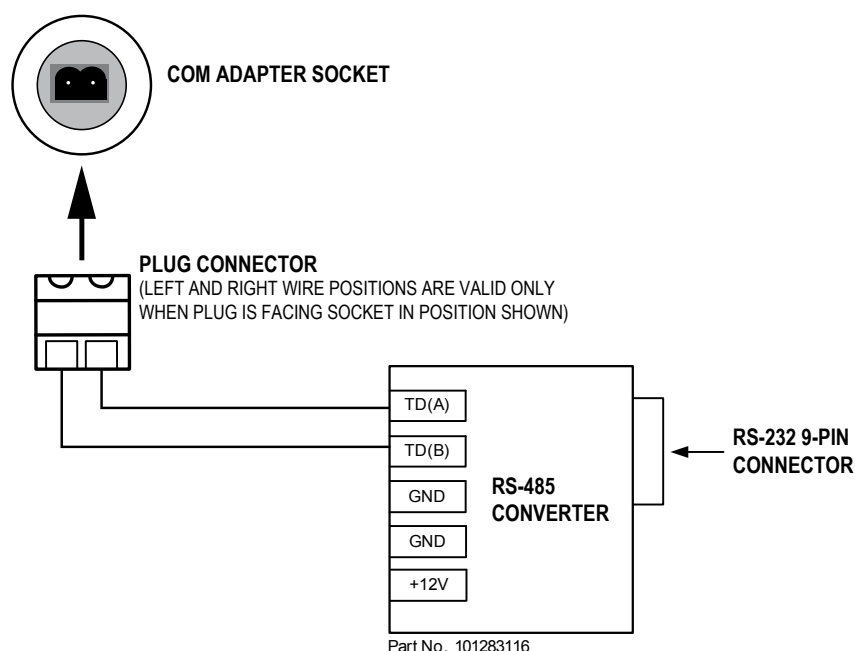

Figure A.5—Wiring of plug connector to Cameron 9-pin RS-232 to RS-485 converter cable
A plug connector that mates with the RS-485 adapter socket is shipped with the device (uninstalled). This plug connector should be wired to an RS-485 converter cable as shown in Figure A.5, page A-4, and stored with the cable when the COM adapter is not in use.
2. Wire the plug connector to an RS-485 converter cable, if it is not already attached (Figure A.5).
3. Connect the plug connector to an RS-485 converter cable (Figure A.5, page A-4), if applicable.